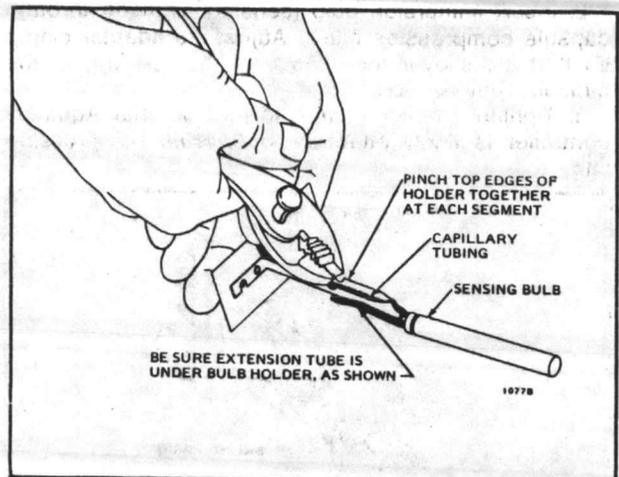

FIG. 13—SECURING CAPILLARY IN BULB HOLDER.
4. Place capillary in bulb holder channel. Pinch top edges of holder together at each segment (Fig. 13).